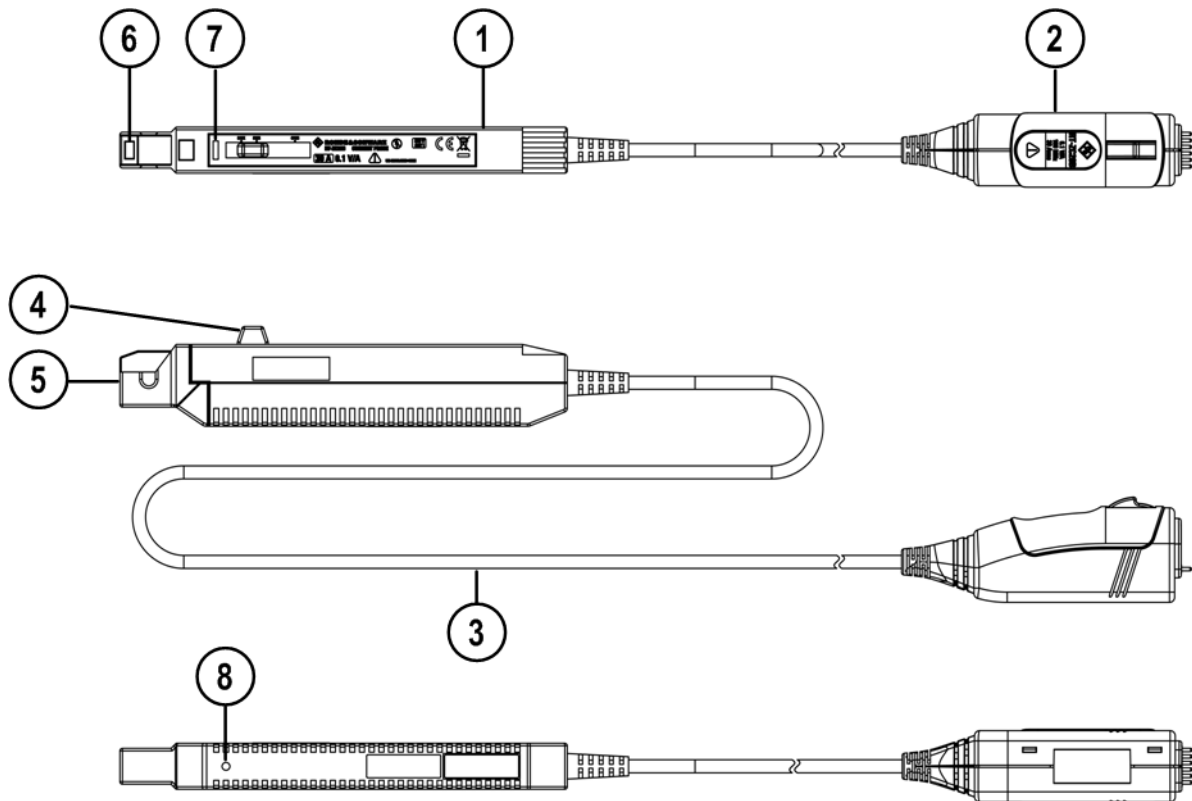

Figure 2-1: Overview of the R&S RT-ZC20B current probe
8. If zero adjustment is not possible, turn the coarse adjustment trimmer to bring the waveform within the range of zero adjustment (see figure 2-1 on page 11).